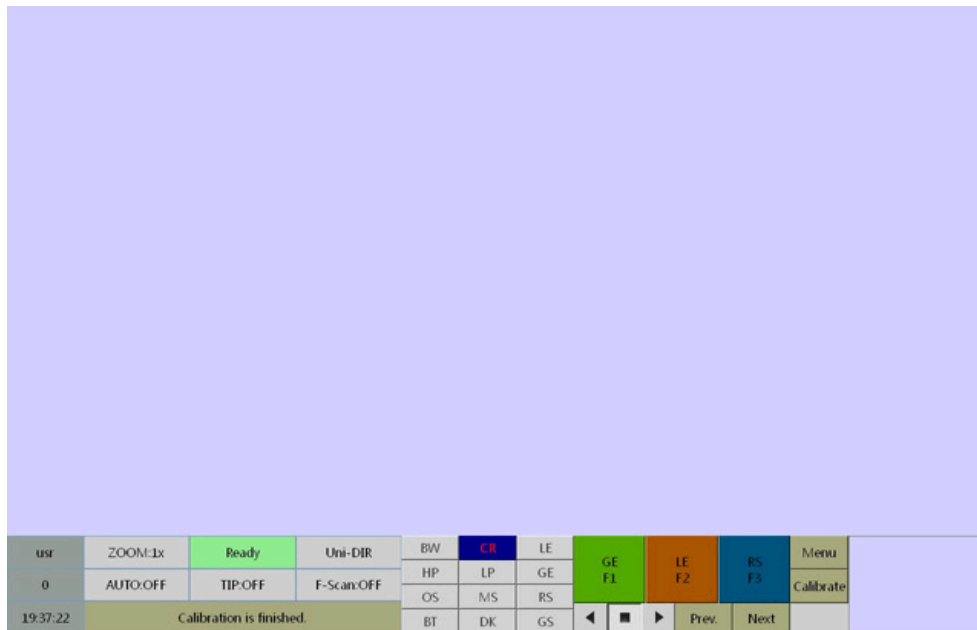

Fig 4.4 Main Interface of X-Ray Inspection System
8. **Custom functional buttons** :  The different processing functions—"F1", "F2," "F3" can be set separately as required, as shown in the main interface of the X-ray inspection system in Chapter 4 (Fig 4.4). The default configuration of the functional shortcuts: F1 stands for "Super Enhancement"; "F2" stands for "Local Enhancement"; "F3" stands for "Invert".